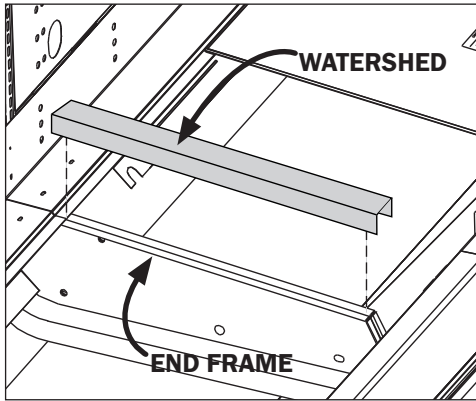

Fig. 6 Sealing the pipe chase
6. Apply case-to-case watershed (supplied) over the end frame seam (Fig. 6). The watershed prevents water from settling in the case joint.